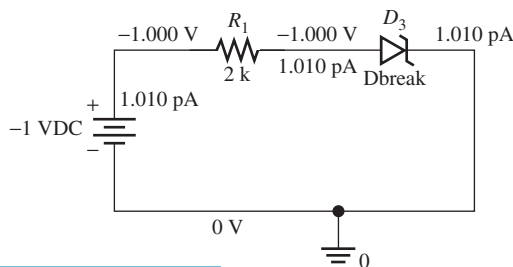

FIGURE 8.92 PSpice schematic solution for Example 8.32(a).
7. Run the bias point analysis (see Figure 2.73). The PSpice schematic solutions for each voltage source are shown in Figures 8.92 to 8.94.